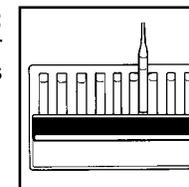

Figure 5
- b. High Range Comparator (fig. 5): Place the ampoule between the color standards until the best color match is found.